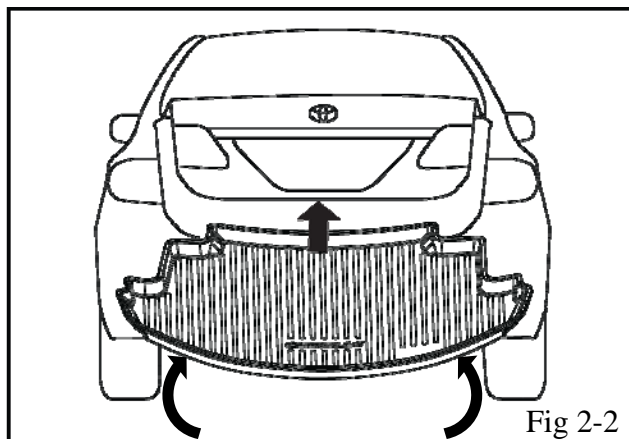

Fig 2-2
- (i) Grasp the tray by the rear and fold in the sides sufficiently to slide it into the rear compartment. (Fig 2-2)